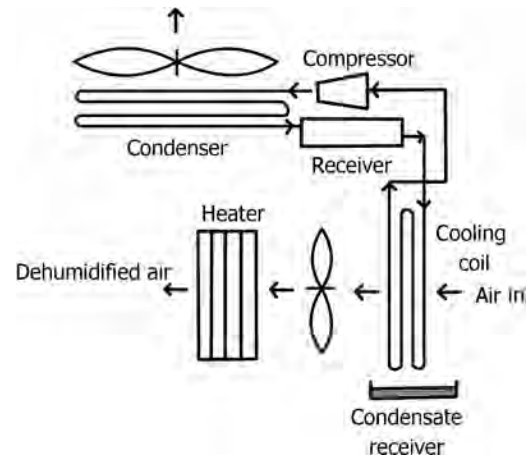

FIGURE 18.14 Vapor-compression cooling-based dehumidification process.
- Figure 18.14 illustrates a typical vapor-compression cooling-based dehumidification process.